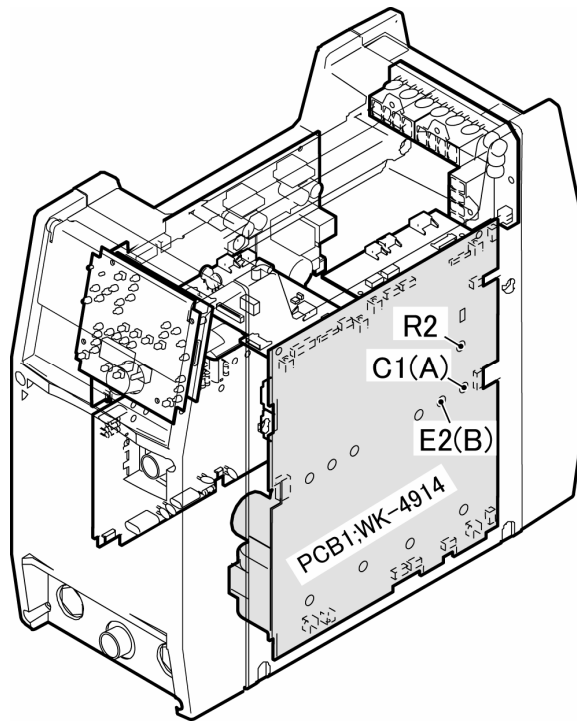

Figure 11 The check points R2, C1(A), and E2(B)
Using a DC voltmeter, measure between the points R2[+] and C1(A)[-] on PCB1 (WK-4914). Points R2 and C1(A) are obtainable on the solder side of PCB1. See Figure 11.
Using a DC voltmeter, measure between the points E2(B)[+] and C1(A)[-] on PCB1 (WK-4914). Points E2(B) and C1(A) can be found on the solder side of PCB1. See Figure 11.